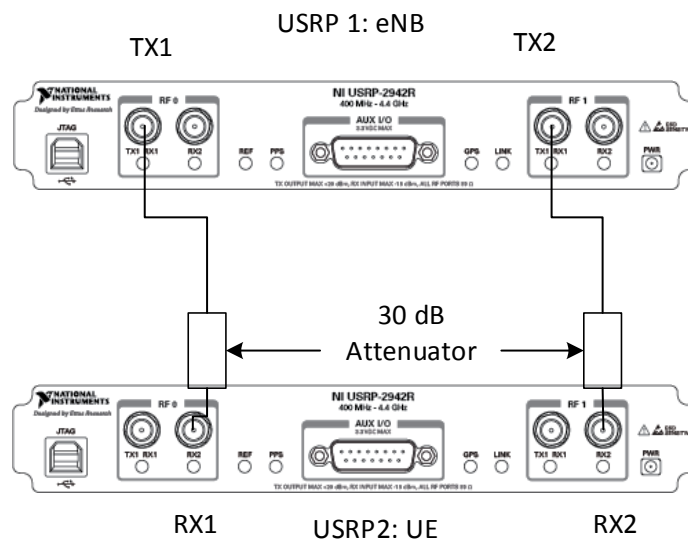

Figure 1: RF cabling
2. Create an RF connection as shown in Figure 1.